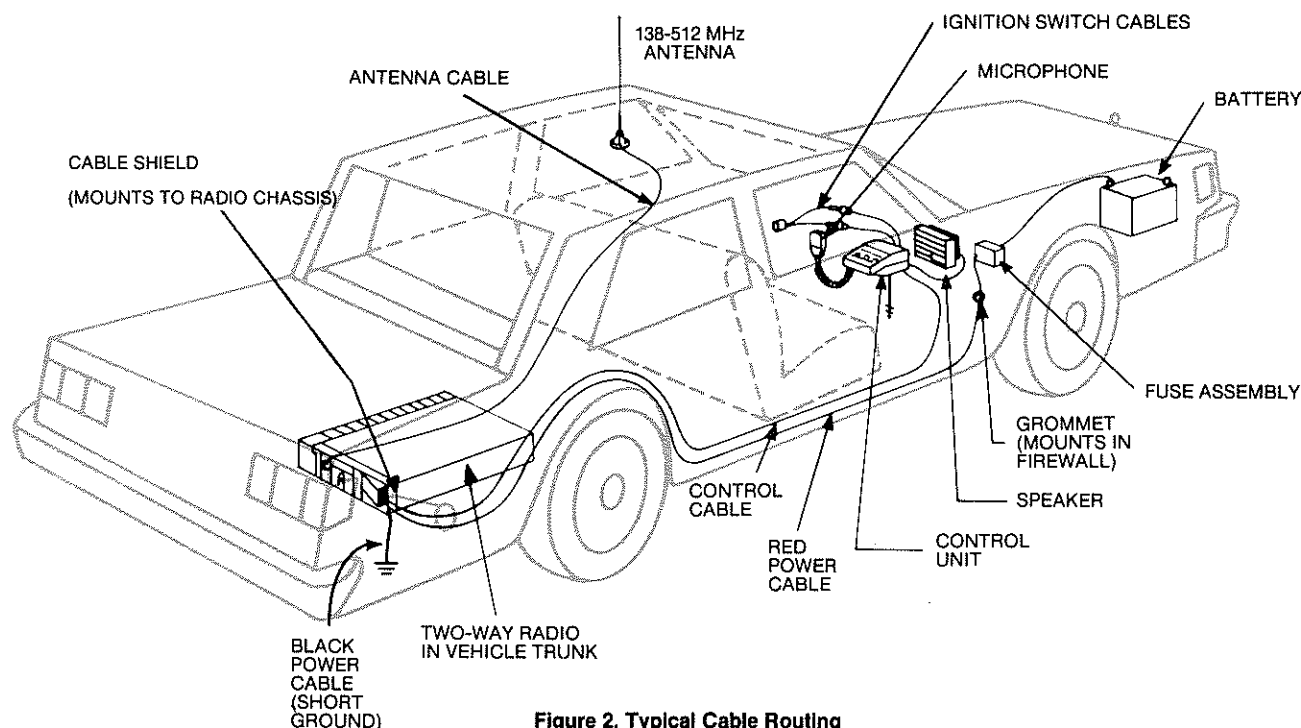

Figure 2. Typical Cable Routing
If an existing hole is not conveniently located for the passage of the power cable through the firewall, drill a 1-1/8-inch hole and insert the rubber grommet provided. Leave at least 18 inches of slack in the plug end of the cables at the location for the two-way radio. Refer to the Cable Routing Diagram (Figure 2) for additional information.
1. Starting with the plug end of the Power/Control Cable, run the black control cable to the control unit location and the red power cable to the vicinity of the battery. Drill a No. 9 (3/16-inch) pilot hole and connect the short black power cable to a good vehicle ground with the 1/4 x 5/8-inch hex-head self-tapping screw and the two external tooth lock washers. The external tooth lock washers are placed on each side of the black power cable ring terminal. Refer to the Cable Routing Diagram (Figure 2).